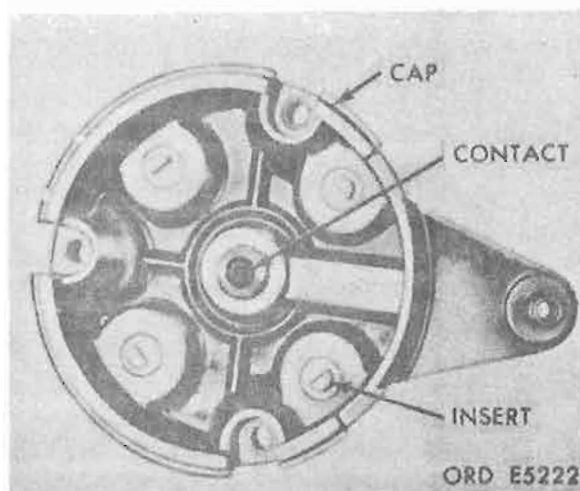

Figure 6-7. Distributor cap.
a. Cap and Cover Assembly (fig. 6-7).
(1) Discard cap if it is cracked or if carbon runners have formed either on inside or outside surfaces. Inspect inserts on inside of cap. If they show uneven or excessive burning, discard cap (slightly burned inserts are normal). If there are burned spots on the horizontal face of inserts it means the rotor is too short and must be replaced. Clean contacts with carbon tetrachloride. Do not file. Do not clean carbon contact with solvent. Wipe dry and inspect for cracks and an oil-soaked condition. Discard cap if carbon contact is not in good condition. Discard O-ring if damaged or excessively dirty.
(2) Discard rubber terminal sealing washers if they are rough or if they do not fit properly.
(3) Clean cover in mineral spirits paint thinner or drycleaning solvent. Inspect for cracks or other damage. Place cover on base to make sure it touches base on all sides.